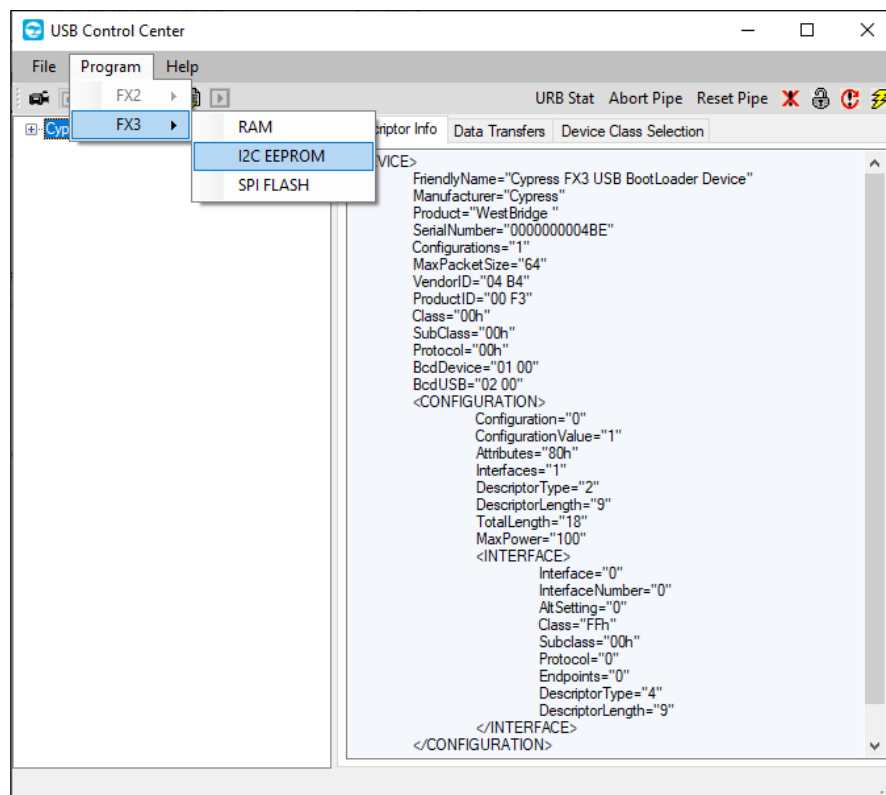

Figure 4.2. Cypress USB Bootloader – Default Screen
6. The screen shows the boot loader device as shown in Figure 4.2.